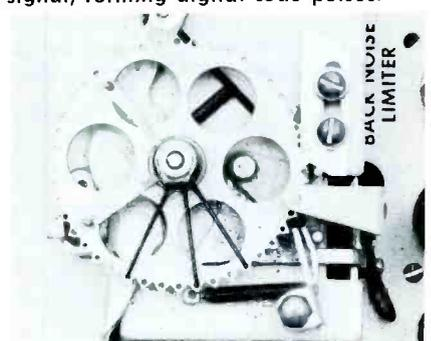
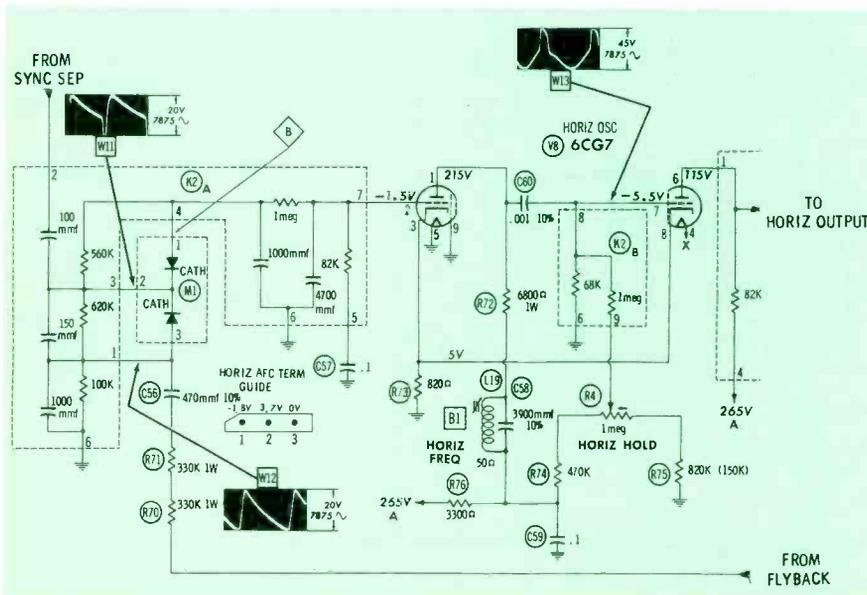

Fig. 3. Selector wheel is electromagnetically driven by pulses from decoder.
Fig. 2. Cathode-coupled multivibrator — a typical horizontal sweep generator.
(B) Normal pulse-sawtooth combination. Fig. 3. Horizontal-AFC grid signals.
Fig. 2 and Fig. 3 show the circuits schematically. Horizontal oscillator V8, in Fig. 2, generates pulses which are fed to shaping network K3 in Fig. 3. The output of this network (W14) is coupled to the horizontal-output grid. V9 provides sufficient power amplification to drive output transformer T4 and the deflection coils. V10 damps the flyback-circuit oscillations caused by the large pulses in T4, and also develops a boost B+ voltage for application to circuits which need more voltage than the regular B+ source provides.
A good way to start troubleshooting the circuits in Figs. 2 and 3 is by isolating the trouble to one stage. Your scope can be valuable to you for this operation. By using it to measure waveforms W13 and W14, you can discover three things about them: their existence, their ampli-
If waveform W13 is normal, look at W14 (Fig. 3). The amplitude is important; but if waveform W13 was okay, you will usually find W14 also sufficient. To calibrate your scope quickly and easily, touch the probe to the heater terminal of any tube. The 6.3-volt AC waveform found here has a peak-to-peak value of about 17.5 volts. If you adjust the scope's vertical gain so as to have about $\frac{7}{8}$ " deflection, your scope will then be calibrated for 20 peak-to-peak volts per inch. However, the shape of W14 is also important; if it is found to vary from the correct waveform, try substituting the waveshaping components. (In the circuit of Fig. 3, replace K3.)
Another consideration is the setting of C61 (Fig. 3), which is labelled SIZE CONTROL in this particular receiver, but which is more commonly called a drive control. If this control is set for minimum drive, the grid-signal amplitude will be low, resulting in insufficient bias voltage. Thus, a reduction in drive increases the current through the horizontal output circuit, contrary to what you might expect.